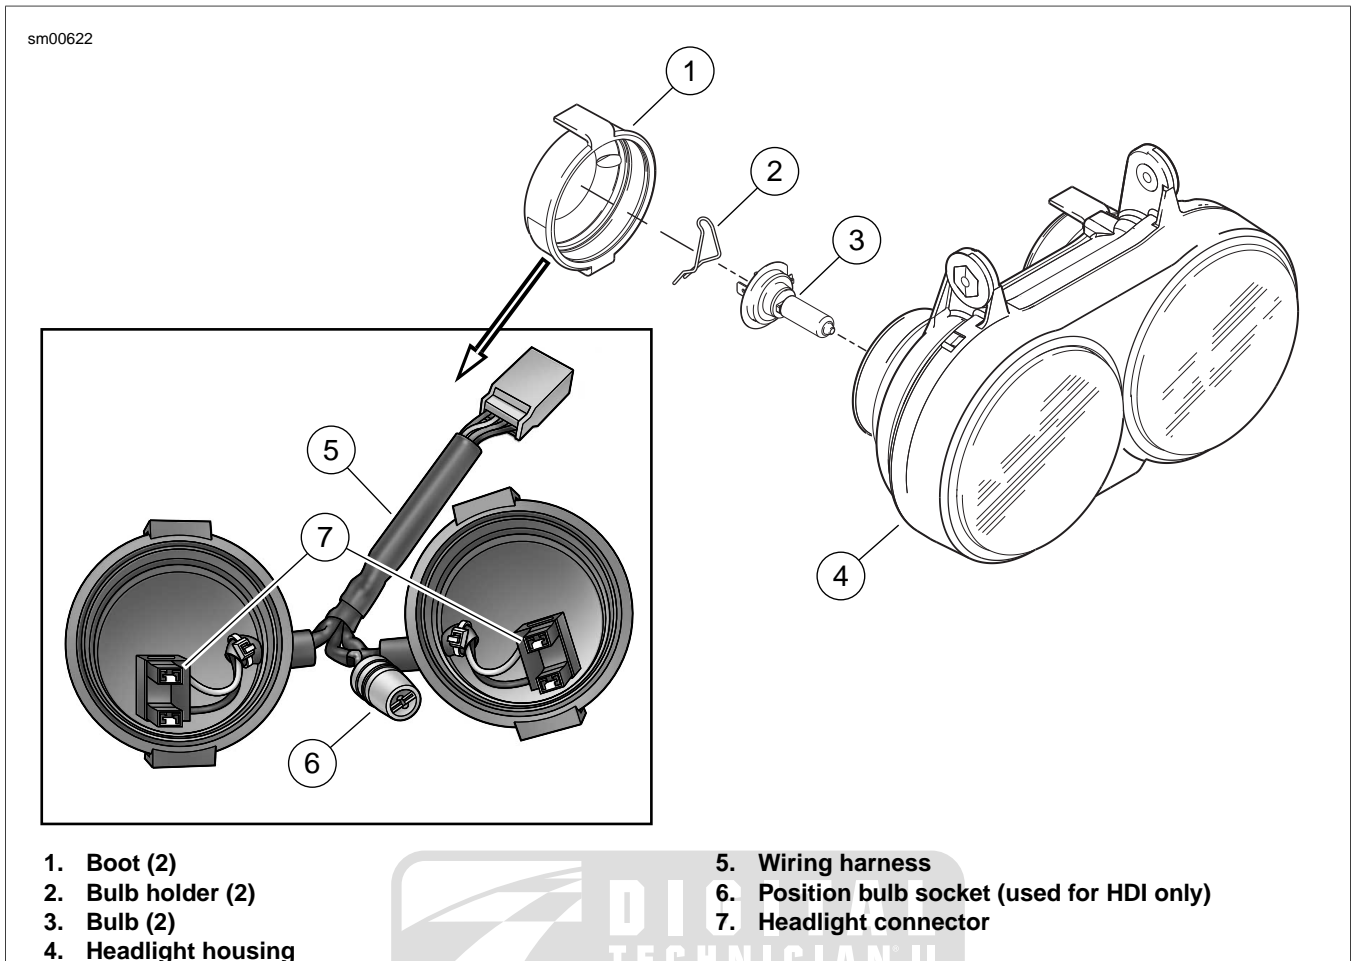

Figure 2-144. Headlight Assembly
1. See Figure 2-144. Remove rubber boots (1) from rear of headlight housing.
2. Disconnect wiring harness (5) from headlight bulbs (3) and remove along with position bulb socket (6).
3. Remove bulb holders (2).
4. Remove headlight bulbs (3) from back of headlight housing (4).
1. See Figure 2-144. Align and install headlight bulbs (3) into back of headlight housing (4).